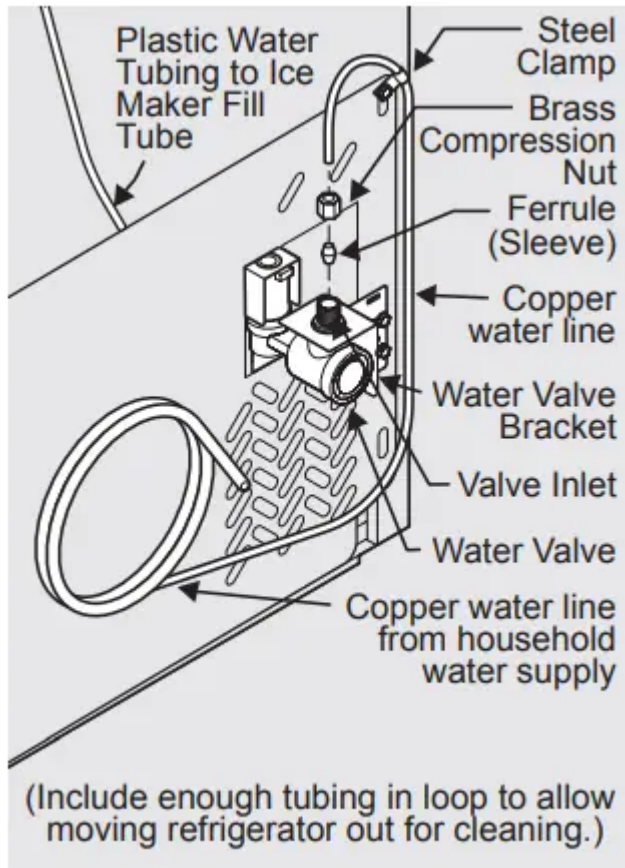
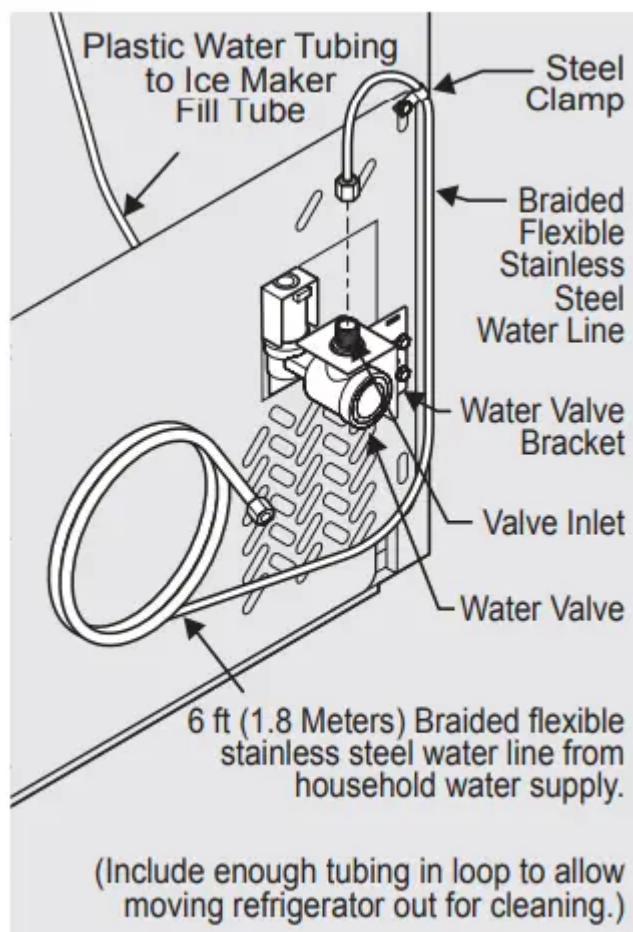

Figure 1
Figure 2
4. If you use copper tubing - Slide brass compression nut, then ferrule (sleeve) onto water supply line. Push water supply line into water valve inlet as far as it will go (¼ inch/6.4 mm). Slide ferrule (sleeve) into valve inlet and finger tighten compression nut onto valve. Tighten another half turn with a wrench; DO NOT over tighten. See Figure 1. If you use braided flexible stainless steel tubing - The nut is already assembled on the tubing. Slide nut onto valve inlet and finger tighten nut onto valve. Tighten another half turn with a wrench; DO NOT over tighten. See Figure 2.